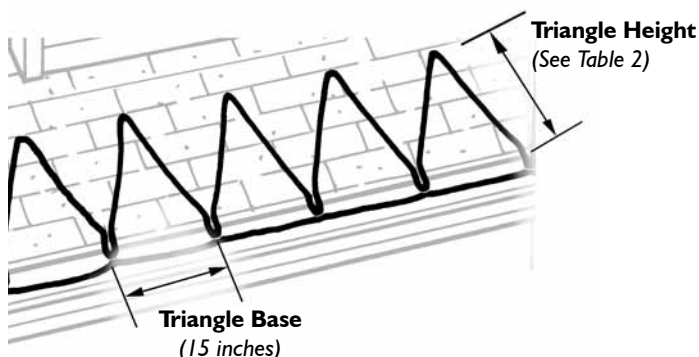

Figure 4. Triangle pattern along roofline
- **Pattern for the roofline:** Cable laid along the roofline is arranged in a triangular pattern (see Figure 4). The cable must extend above the overhang into the warm section of the roof. To determine the height of the triangles, measure the depth of the overhang. The triangle heights are measured by the number of shingle rows from the roof edge (based on the standard 5½ inch tab shingles). Using Table 2, determine the height of each triangle. Using this method, the triangles will extend at least one shingle row (5½ inches) into the warm roof area.